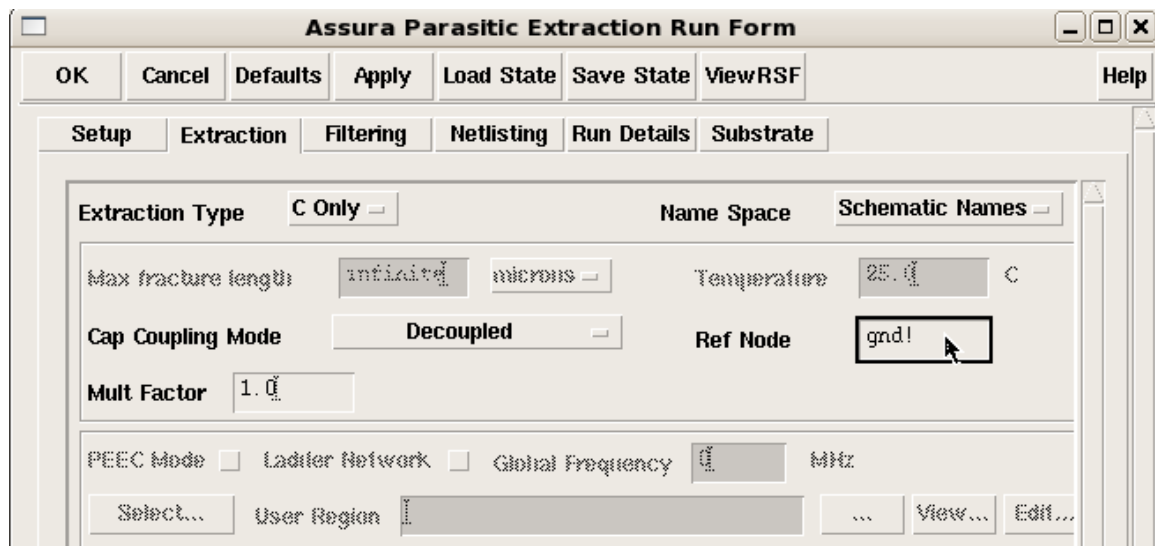

Fig.24
3. In the “Extraction” folder of Assura RCX window, select the “extraction mode” to “C only” (if you want to extract only C), set the “Name space” to “Schematic Names” and fill in the “Ref Node”(here we use “gnd!”)(Fig 24).